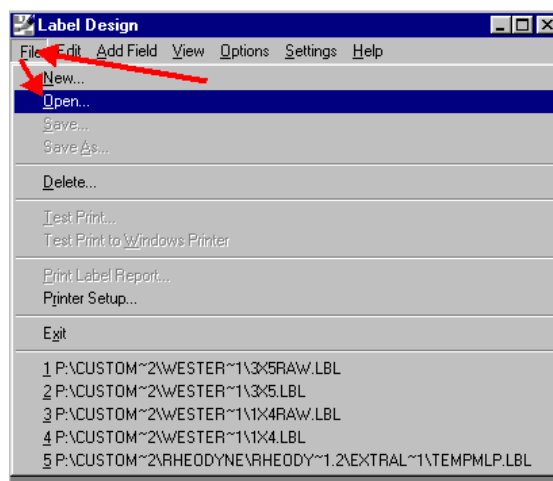

Figure 1-2
- 1.4. Click *File > Open*. (Figure 1-2)